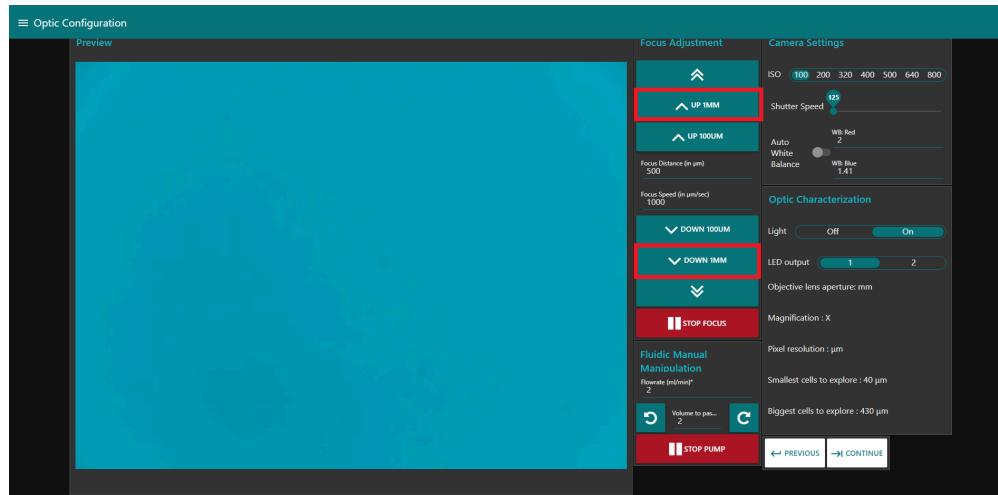

Figure 4: Red boxes highlight 'UP 1MM' and 'DOWN 1MM' that will move the Mount (pictured below).
b) Under Focus Adjustment (fig.4), **click 'UP 1MM' and 'DOWN 1MM'** to ensure focus buttons turn the focus motor (same for the 100 microns version of the button). You should see the mount moving further from (UP) or closer to (DOWN) the camera. **You can also use the ">>" button to move your focus according to a personalized value ("Focus distance").**